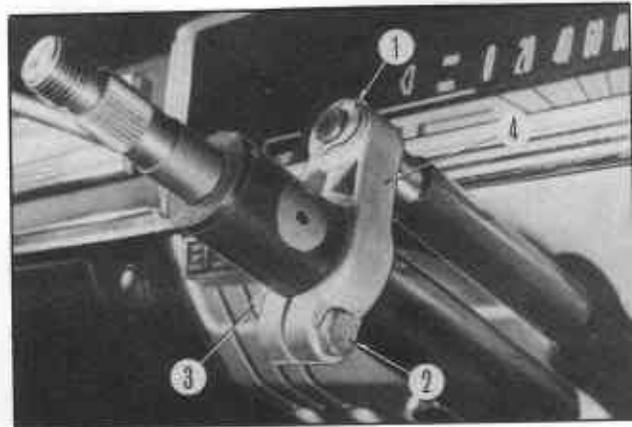

Fig. TM-56 Upper bracket removal
3. Remove the "C" washer (See item 1 Fig. TM-56) and washer. Then remove the upper support bracket by releasing the locating bolt and socket screw. The control rod insert with bush and return spring can now be removed.